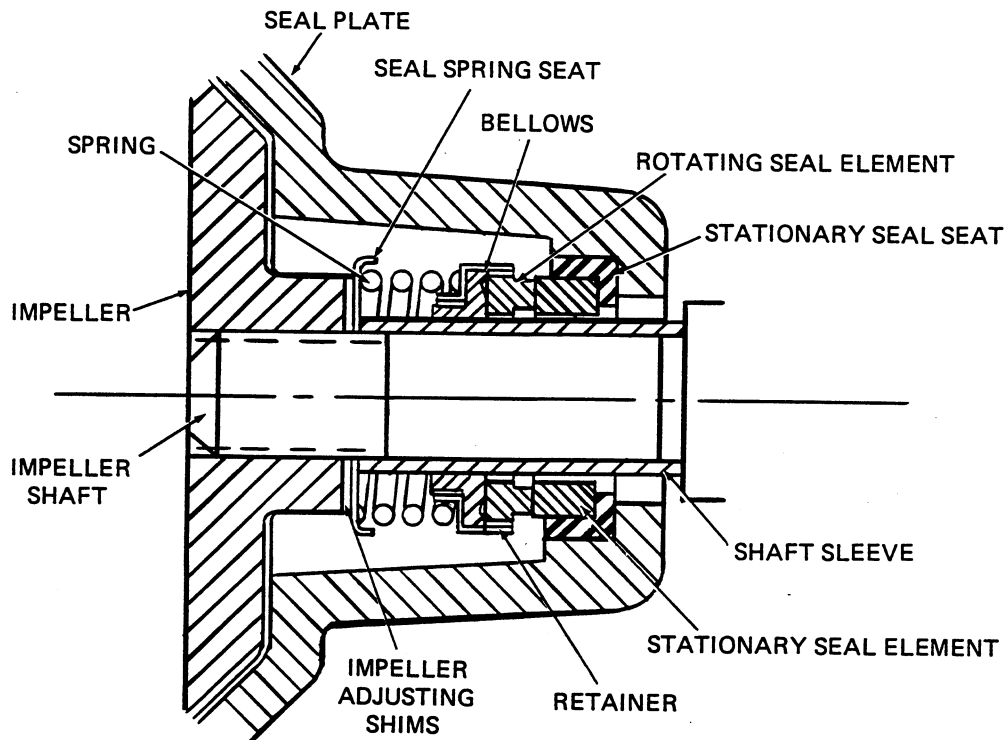

Figure 2. S1575 Seal Assembly
To ease installation of the seal, lubricate the O-rings and shaft sleeve (16) with water or a very **small** amount of oil, and apply a drop of light lubricating oil on the finished faces. Assemble the seal as follows, (see Figure 2).